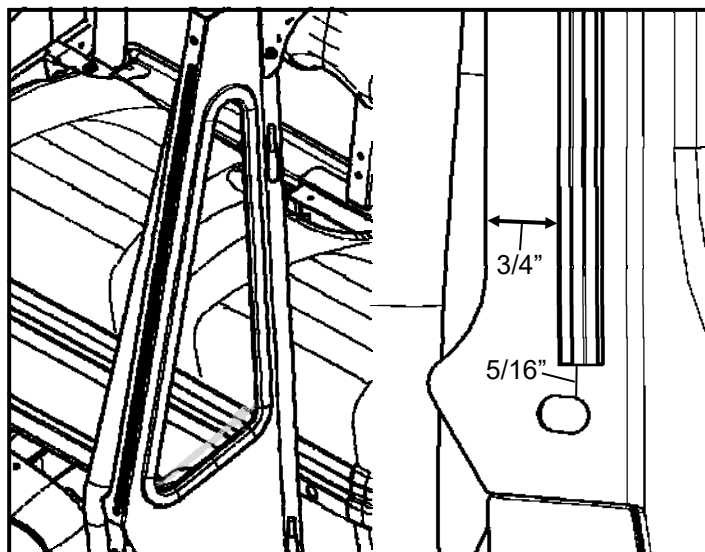

Figure 8.1: A-pillar Weatherseal
- 8.1 Cut the supplied strip of 1/2" V-groove weather seal rubber, in half, for two 30-inch lengths. Apply one strip to the front of the A-pillar (**Figure 8.1**). Peel the paper from one end and press the rubber onto the frame, starting at the lower hole and 3/4" from the inside edge. Continue to peel and press the rubber aligned with the inside edge of the A-Pillar. Repeat for the other side.